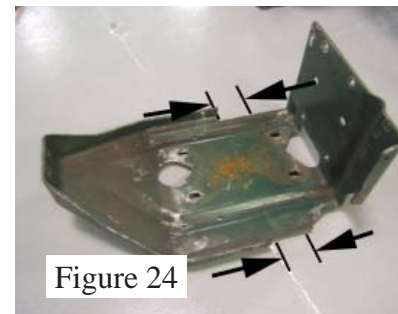

Figure 24
1. Cut approximately 3" from each side of the engine tray as shown. (See Figure 24).